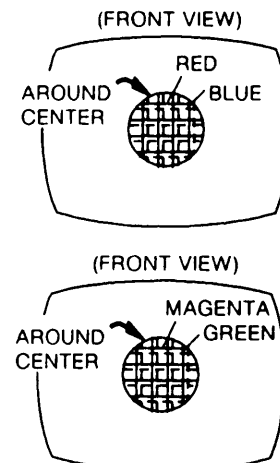

Fig 7.
- 2: Adjust the convergence around the edges of the picture tube by tilting the yoke, up-down and left-right, and temporarily install one wedge at the top of the yoke (figs. 7, 8 & 9).
- 3: Rotate the front pair of tabs (four pole convergence magnet) as a unit to minimise the separation of the red and blue lines around the centre of the screen. To adjust the convergence of red and blue, vary the angle between the tabs (fig. 7).
- 4: Rotate the rear pair of tabs (six pole convergence magnets) as a unit to minimise the separation of the magenta (R/B) and green lines (fig. 7).